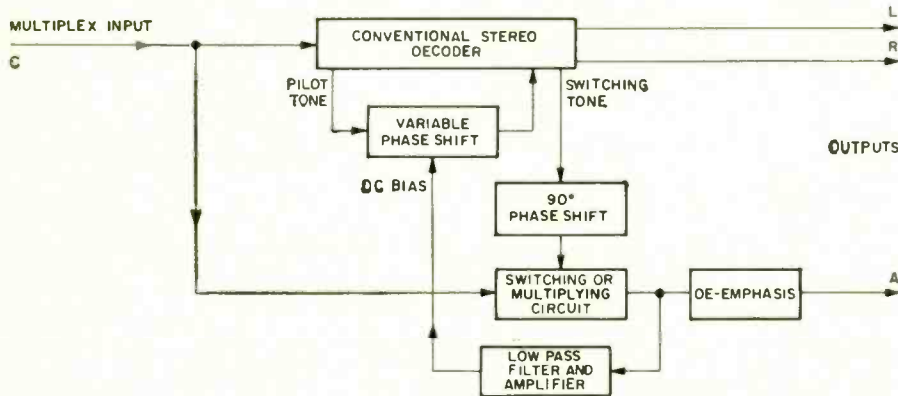

FIG. 3—A 3-CHANNEL QUART SYSTEM that incorporates automatic phase correction.
Any competent engineer should be able to design encoding circuitry to produce a signal of the form given in formula (1). But there are a few points which require special attention. The encoder must be designed so that the stereo difference 38-kHz modulation is accurately in phase with the 38-kHz reference tone, which signals should both be accurately in quadrature with the 38-kHz ambience modulation. The phase errors of the 38-kHz signals should not exceed 1° at the encoder. In some encoder designs, the 38-kHz reference tone is obtained by adding a dc component to the stereo difference signal modulating the 38-kHz subcarrier. It is desirable to filter out frequencies below 20 Hz from the ambience signal fed into the encoder; otherwise low frequencies in the ambience signal might contribute to the dc bias in the decoder of Fig. 3, causing spurious cross-talk in the receiver. (The low-pass filter in Fig. 3 cannot be designed to have a sharp cut-off without introducing instability in the feedback loop). Be careful not to introduce any filtering of the encoded QUART signal that would tend to cause cross-talk in the output of a QUART receiver. It should be checked that the encoded QUART signal has the correct polarity.